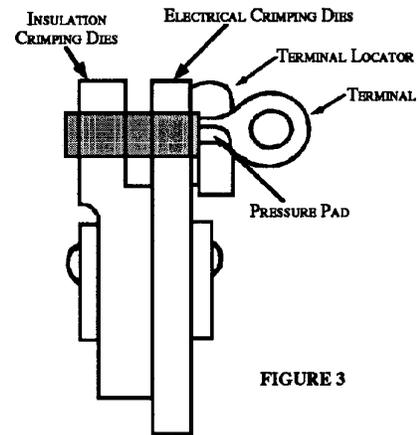

FIGURE 3
- a) Hold tool (handles open) in right hand with terminal locator facing down. Right hand should be positioned on handles close to crimping head of tool. Insert terminal by dropping through nest of crimping jaws so that tongue slides into terminal locator. Seat terminal against pressure pad with thumb (See Figure 3).